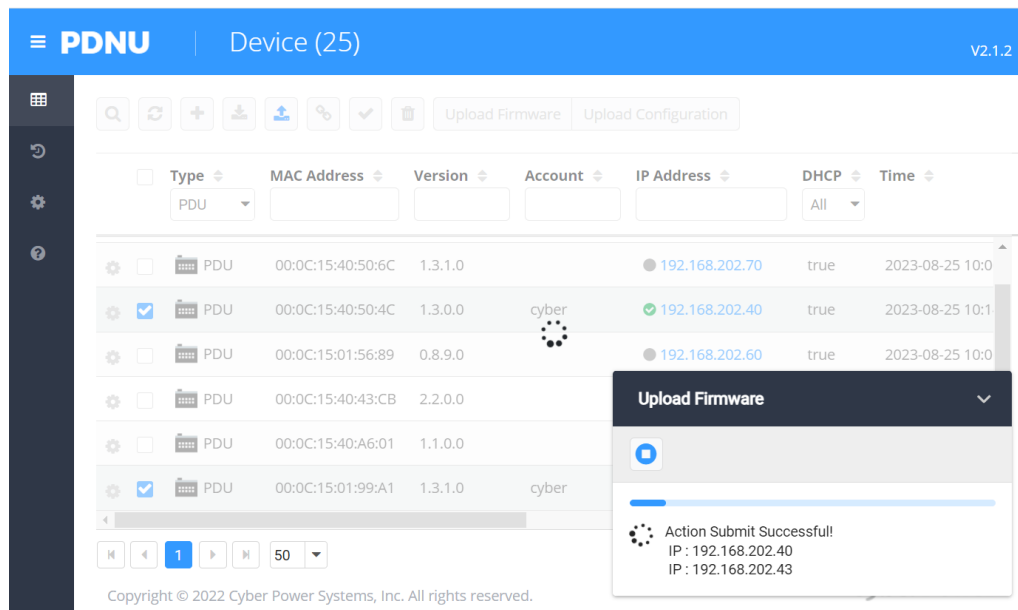

Figure 5.
8. The upgrade progress bar will show in the lower right **Upload Firmware** window (Shown in Figure 5).